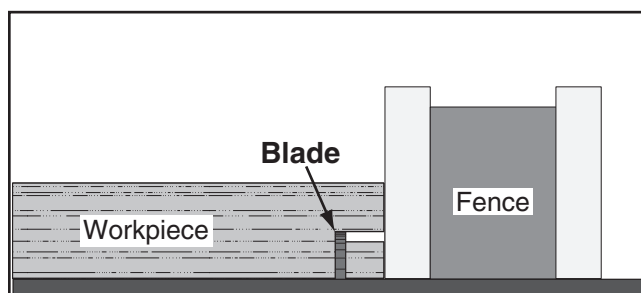

Figure 85. Second cut to create a rabbet.
7. Lay the workpiece flat on the table, as shown in **Figure 85**, adjust the saw blade height to intersect with the first cut, then perform the second cut to complete the rabbet.